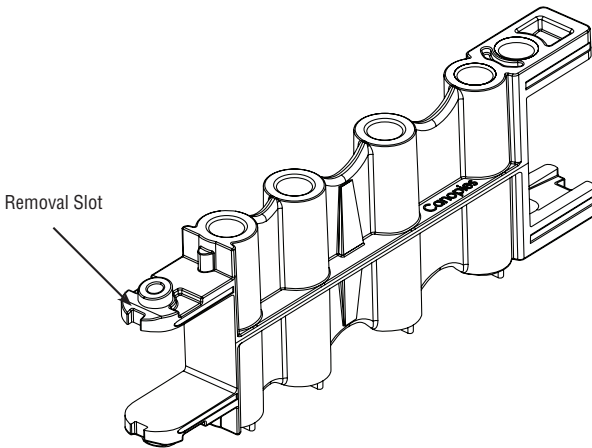

Fig. 2.5
- a. Put the flat edge in the removal slot (Fig. 2.5) on the top or bottom prong of the Extender Arm that is to be removed.